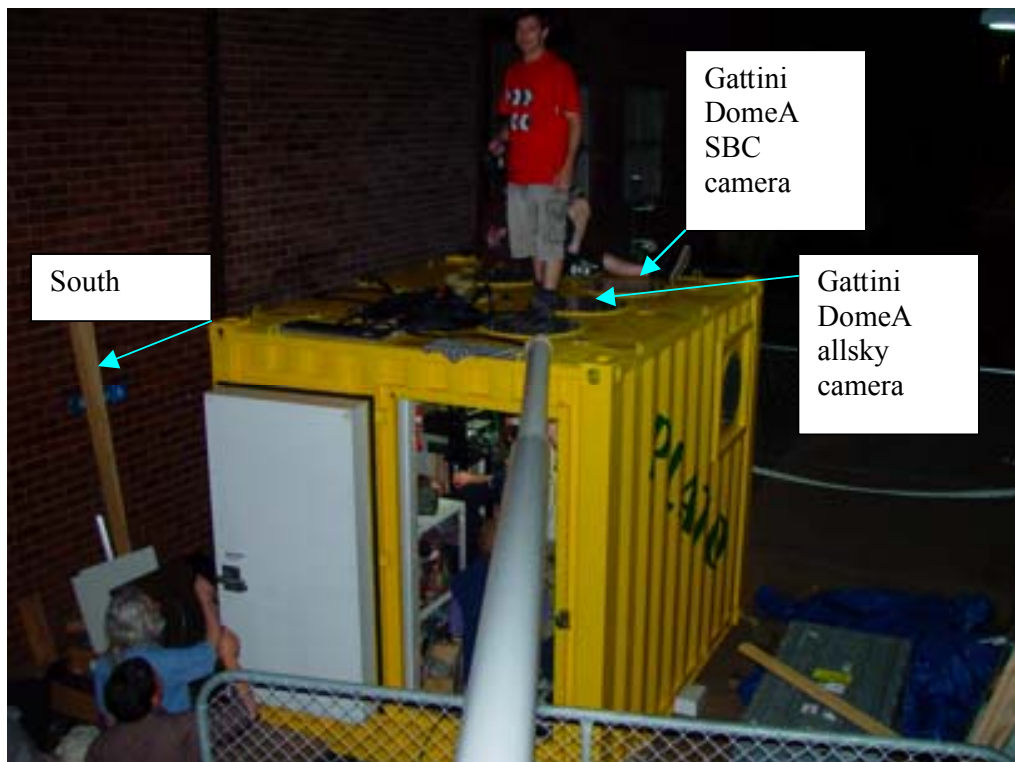

Figure 9 : The PLATO instrument module and relative locations of the Gattini camera enclosures
6. The Gattini camera enclosures should be placed on the PLATO roof as shown in Figure 9 . Each camera should be orientated as close as possible to the South Pole, therefore each camera should be pointing in the exact same direction as the CSTAR telescopes.